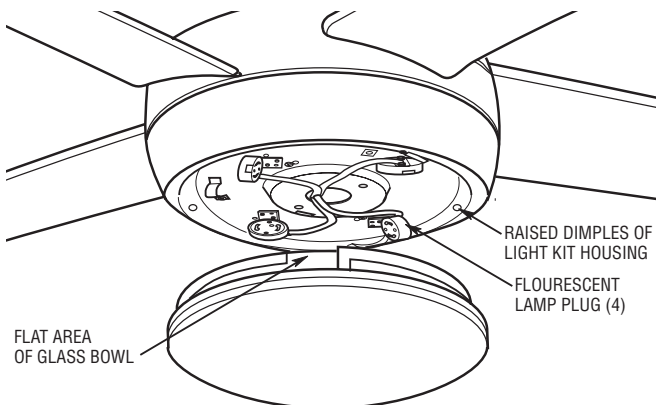

Figure 13
- 3. Place the glass bowl into the opening in the lower housing assembly, aligning the three flat areas on the top edge of the glass with the three raised dimples on the lower housing assembly and turn the glass bowl clockwise until it stops (Figure 13).